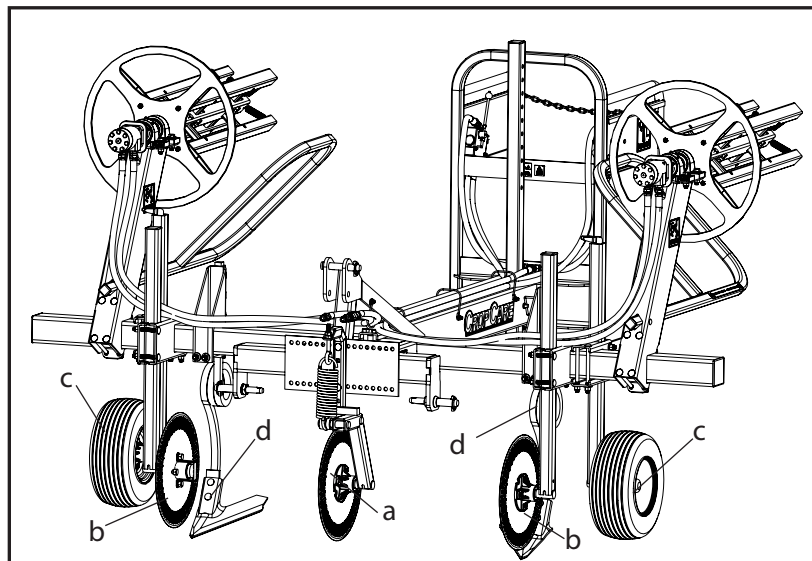

Figure 7: Setting the depth
- The center coulter (a) should run about 2"-3" into the soil. It is important to note that the center coulter has only two settings and the higher setting is used for raised beds (Figure 7).
- Adjust the gauge wheels (c) to achieve the desired depth of the center coulter (a) and adjust the shovel shanks (d) and the side coulters (b) to proper depth (Figure 7).
- Set the center coulter (a) to the lowest setting. The center coulter should run about 2"-3" into the soil (Figure 7).
- Adjust the gauge wheels (c) to achieve the desired depth for the center coulter (a), then adjust the shovel shanks (d) and the side coulters (b) to the proper depth (Figure 7).